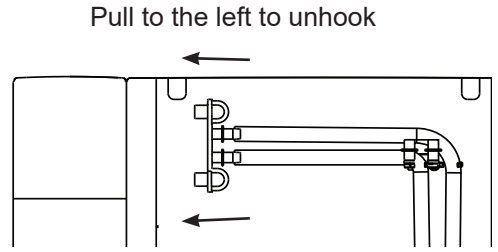

Figure 5
- 9. Unhook the top of the drain hoses at the back of the unit. See figure 5.